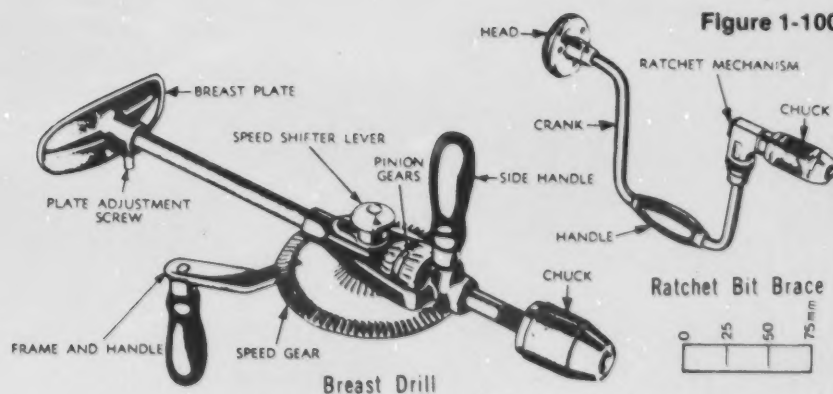

Figure 1-101. Parts of Breast Drill and Ratchet Bit Brace
b) Figure 1-101 shows a typical breast drill and ratchet brace.